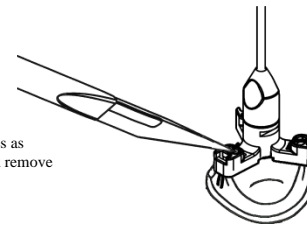

Figure 5: CAUTION! Cut the retaining sutures as shown in the figure and remove the holder.
- To remove the holder from the valve: cut three retaining sutures as shown in Figure 5 and pull the handle.